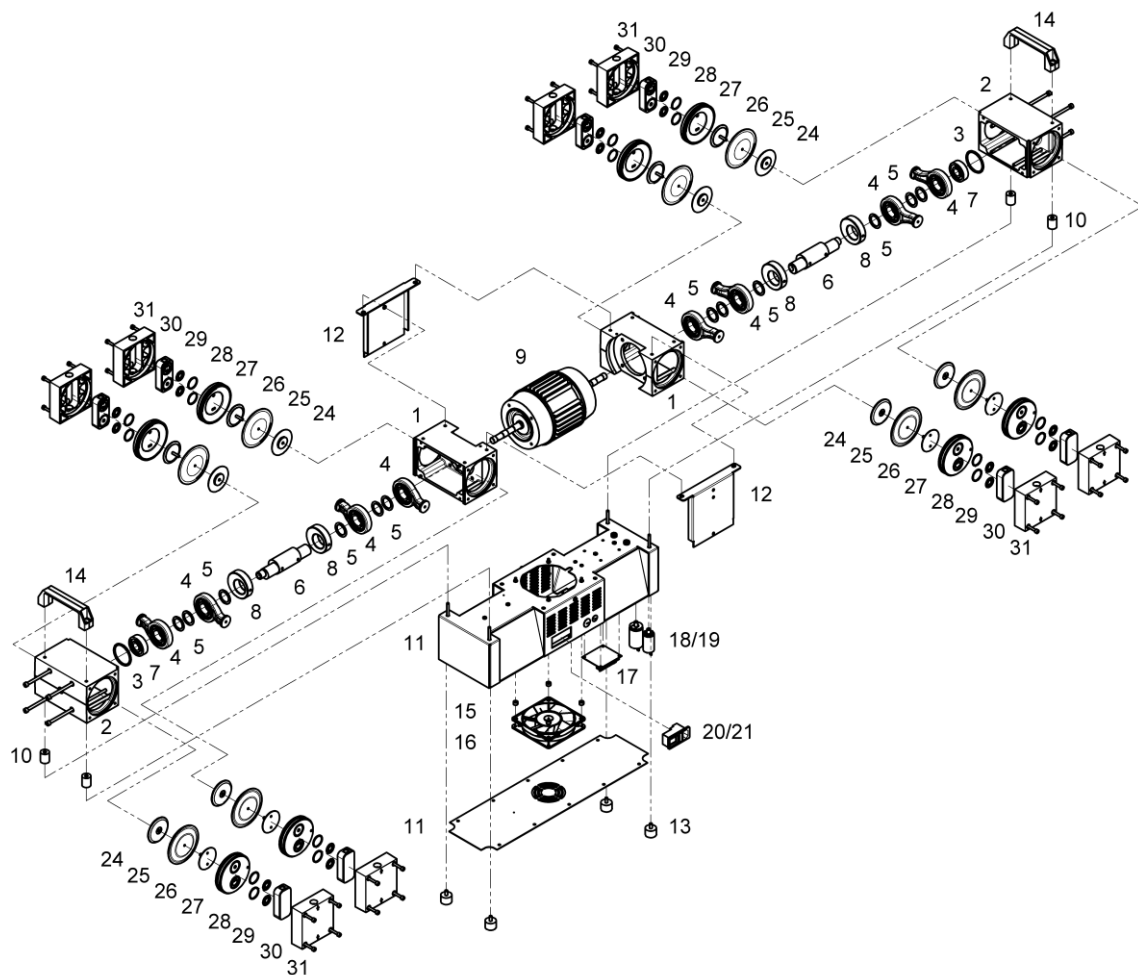

Fig. 5 Exploded view - Basic structure (Diaphragm pumps 8-headed)
2. Use the size 3 pin-type face wrench to tighten the pressure disc (8), the diaphragm (7) and the strain washer (6) with the correct torque of 5 - 6 Nm.
3. Bring the connecting rod (see fig. 5) and the diaphragm (7) into the central position.
4. Replace the pump head (5).
5. Insert the valves (3) and the o-rings (4).